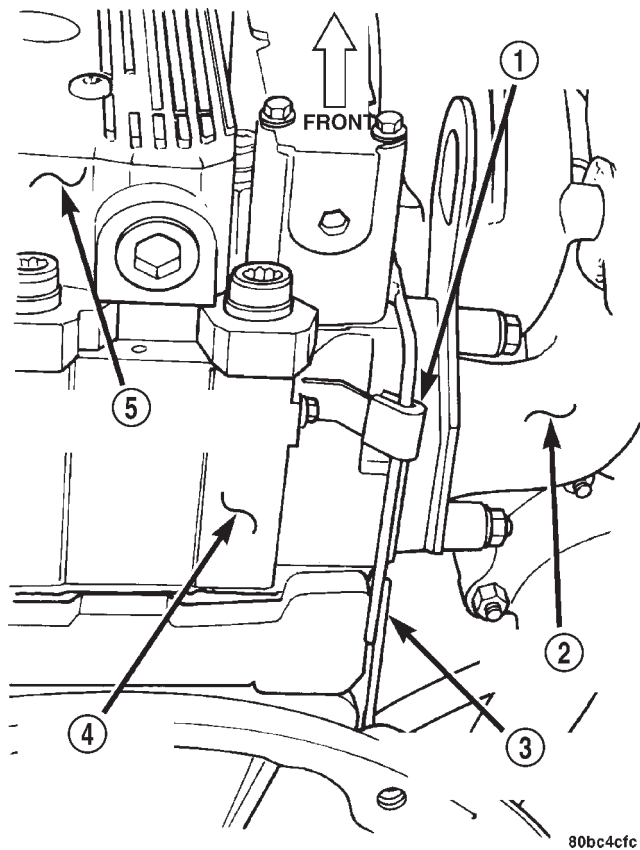

Fig. 69 Cylinder Head Oil Supply Line Retaining Clip
(16) Install the oil feed line retaining clip at rear of the cylinder head (Fig. 69). Torque bolt to 5.5 N·m (4 ft. lbs.).